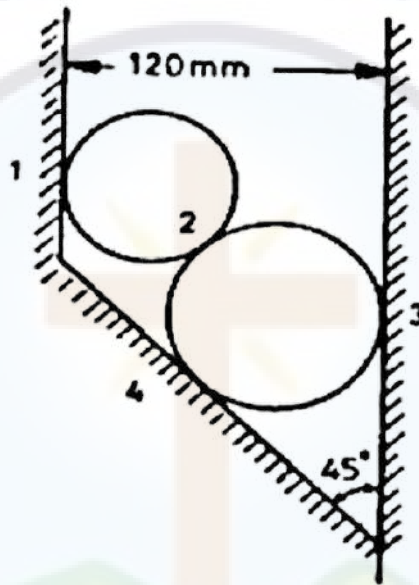

Figure 1
11. Two cylinders of diameters 100 mm and 50 mm weighing 200 N and 50 N, respectively are placed in a trough as shown in Figure 1. Neglecting friction, find the reactions at contact surfaces 1,2,3 & 4. (14 Marks)